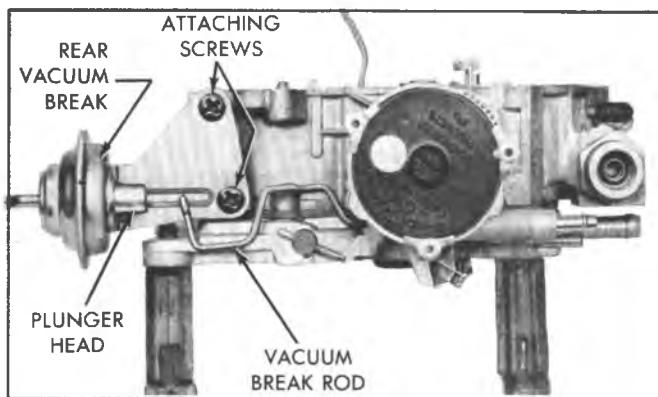

Fig. 6C4-38--Rear Vacuum Break-Typical
3. Remove the two conventional retainers, retainer with tab, (Location A, Fig. 6C4-39), choke cover gasket, and choke cover assembly from choke housing.